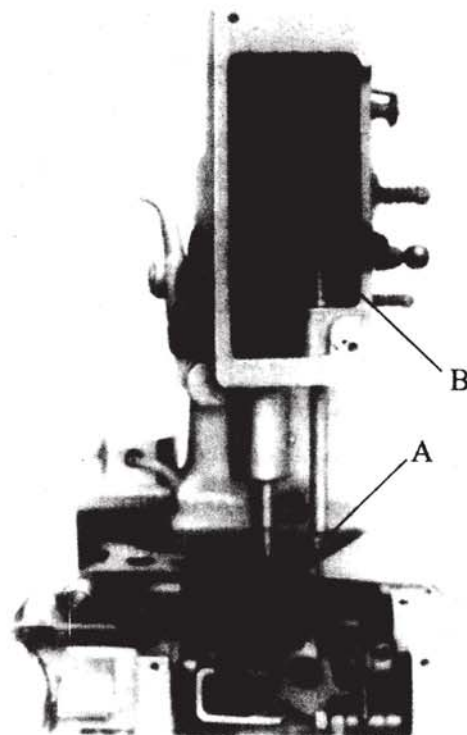
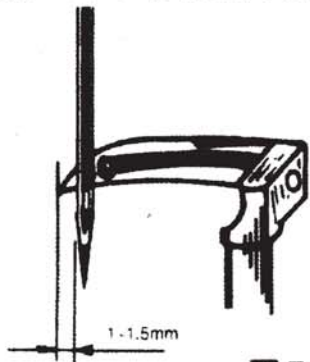

图 3 Fig.3
图7 Fig.7
机针是易损零件，当针眼明显磨损，针尖磨损或弯曲时，应更换新针。换针时，旋转皮带轮使针杆上升到最高点，用扳手拧松螺母（图3，A）换上新针，针柄必须插入针杆孔到底，针眼的凹形面须朝缝料前进方向；再紧固螺母。
卸下针板，将皮带轮按工作方向转动，使弯针运行至左边，当弯针尖超出机针直径1~1.5毫米（0.040至0.060英寸）时，机针的针眼上缘须和弯针的底边齐平（图7所示）。调整机杆高度时，拧松针杆连轴节螺钉（图3，B），上下移动针杆至适合位置后再拧紧螺钉（B），并重新装上针板。
Remove the needle plate. Rotate the machine pulley in operating direction until the looper moving to the left. When the looper point projects 1-1.5mm (.040 to .060 in.) left of the needle, lower edge of looper and upper edge of needle eye must be flush in this position (Fig. 7) For adjustment, loosen clamp screw (B, Fig. 3) in the needle bar up or down as required. Retighten screw (B) and remount needle plate.